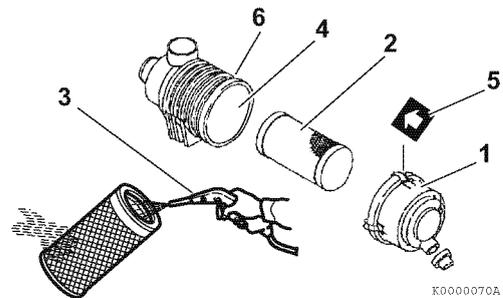
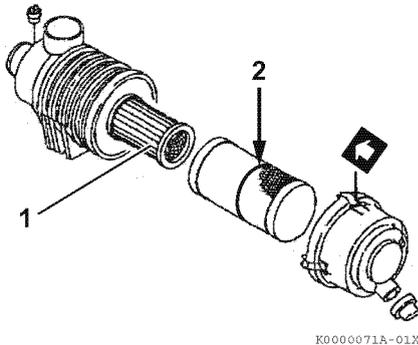

Figure 5-9
Figure 5-10
Note that a typical air cleaner is shown in **Figure 5-9** and **Figure 5-10** for illustrative purposes only.
1. Unlatch and remove the air cleaner cover (**Figure 5-9, (1)**).
2. Remove the element (2, **Figure 5-9**) (outer element if equipped with two elements).
3. Blow air (3, **Figure 5-9**) through the element from the inside out using 42 - 71 psi (0.29 - 0.49 MPa; 3.0 - 5.0 kgf/cm²) compressed air to remove the particulates. Use the lowest possible air pressure to remove the dust without damaging the element.
4. If the air cleaner is equipped with a double element, only remove and replace the inner element (1, **Figure 5-10**) if the engine lacks power or the dust indicator actuates (if equipped).
8. Install the element into the air cleaner case (4, **Figure 5-9**).
*Note: If there is a red line (2, **Figure 5-10**) in the outer element, reinsert the element until the overlap position of red line and end face of the air cleaner case.*
9. Reinstall the air cleaner cover making sure you match the arrow (5, **Figure 5-9**) on the cover with the arrow on the case (6, **Figure 5-9**).
Replace the air cleaner element (2, **Figure 5-9**) every 500 hours even if it is not damaged or dirty.
When replacing the element, clean the inside of the air cleaner case (4, **Figure 5-9**).
If the air cleaner is equipped with a double element, only remove and replace the inner element (1, **Figure 5-10**) if the engine lacks power or the dust indicator actuates (if equipped). This is in addition to replacing the outer element.